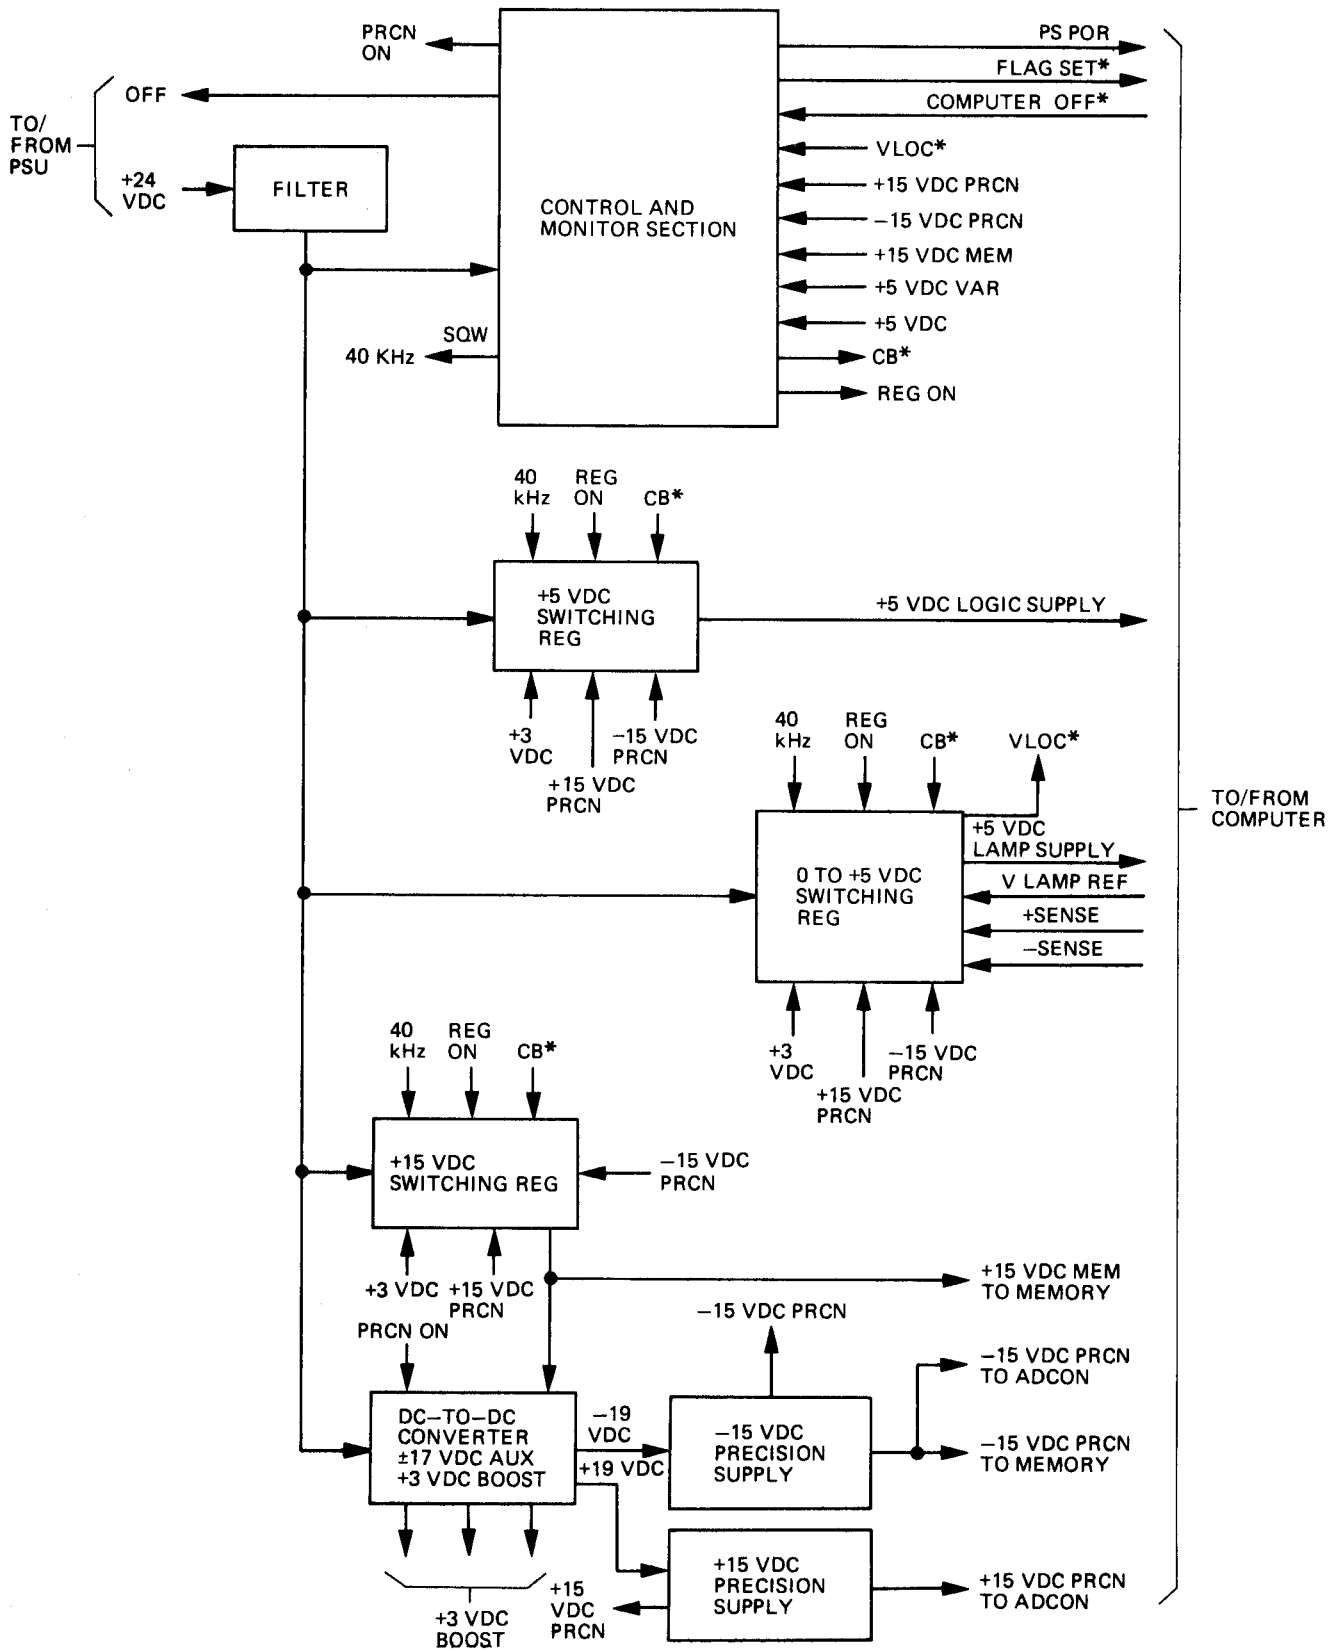

Figure 2-2. Computer Power Supply Functional Block Diagram
e. **Computer Power Supply.** The computer power supply receives unregulated + 24V from the power supply and generates + 5V, + 15V, and -15V for computer operation. See figure 2-2 for a functional block diagram of the computer power supply. In addition, the computer power supply supplies a variable voltage for the CDU display lamps and necessary control signals for the PS and computer. The computer power supply consists of the following major elements: